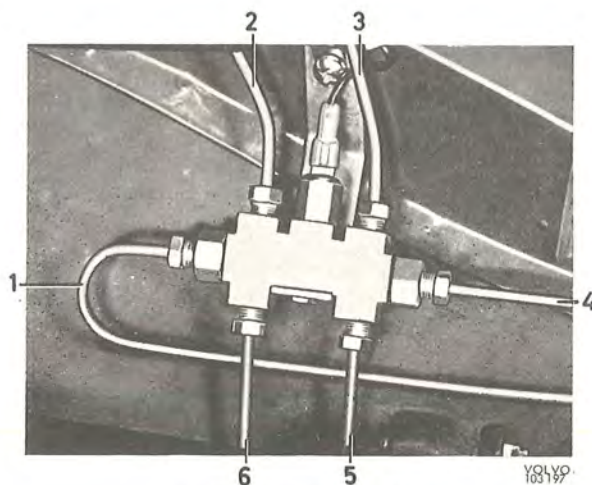

Fig. 5-56. Warning valve fitted
2. Install the new valve in reverse order to removal. Fig. 5-56 shows the various connections.